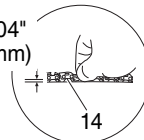

Fig. 6
7. Raise the bar end, and tighten the chain (12) by turning the tension adjustment bolt (13) clockwise. To check proper tension, lightly lift up the center of chain and there should be about 0.02 – 0.04" (0.5 – 1.0 mm) clearance (14) between bar and edge of drive link. (Fig. 6, 7)